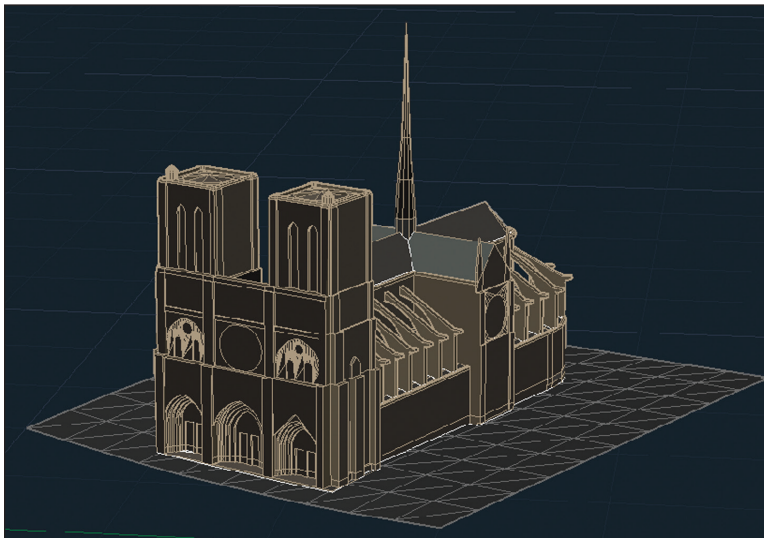

FIGURE 15.6 Viewing the imported Notre Dame cathedral 3D model in AutoCAD
6. From the two separate in-canvas menus located in the upper-left corner of the drawing window, select Perspective and Shaded With Edges to better visualize the geometry (see Figure 15.6).